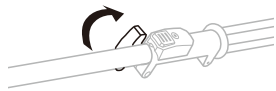

Fig.4A
2. Loosen the wing knob to release the shaft. (Fig.4A)